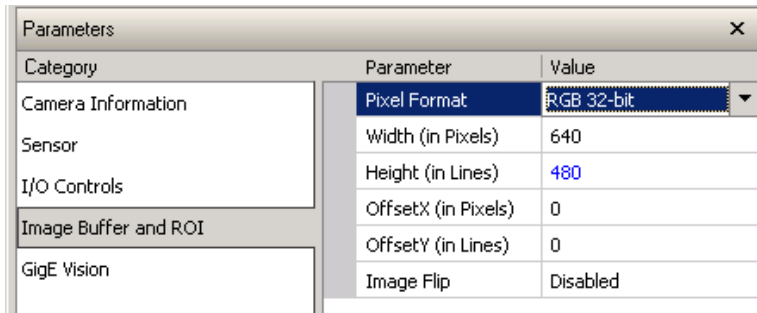

Figure 33. Setting the Color Mode
1. Click on the "Image Buffer" tab (Figure 33).